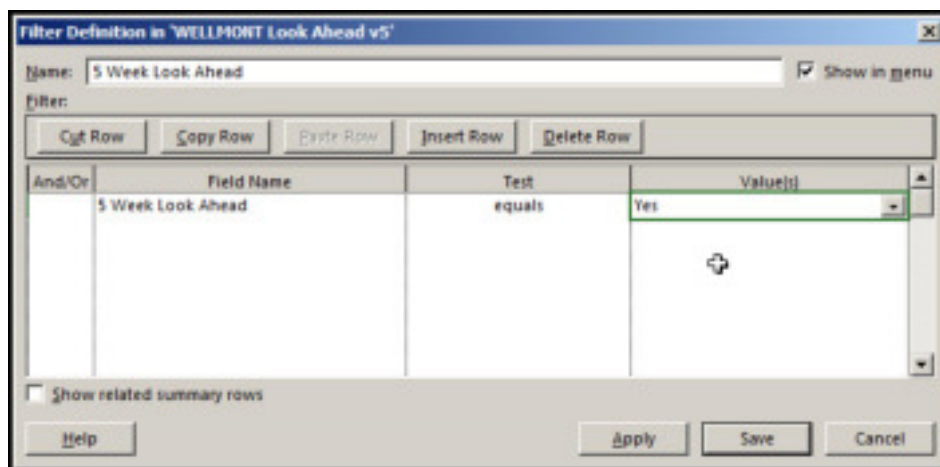

Figure 12
B. Name the filter '3 Week Look Ahead', Figure 12.